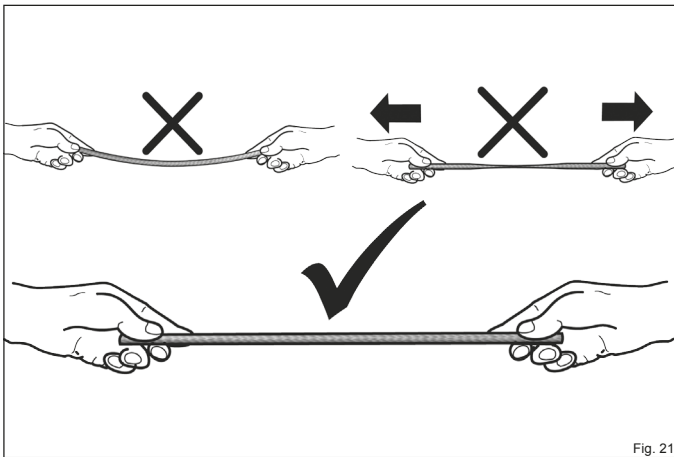

Fig. 21
- ▶ **When installing the seal, ensure it does not sag and is slightly compressed (Fig. 21).**